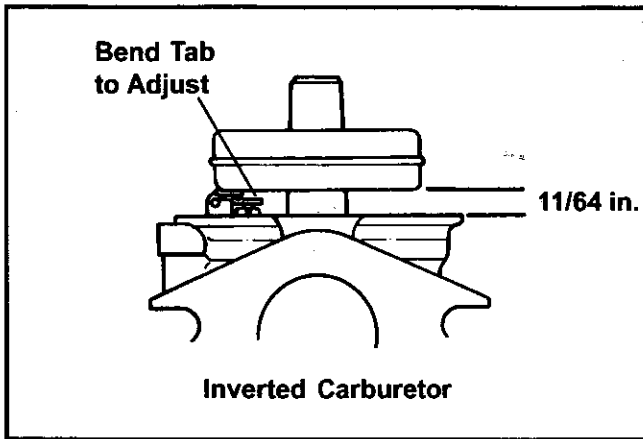

Figure 4. Setting Float Level.
2. **Set float level:** Invert carburetor so the float tab rests on the fuel inlet needle. There should be **11/64 in. ($\pm 1/32$ in.)** clearance between the machined surface of body and the free end of float. Bend the float tab with a small screwdriver to adjust. Refer to Figure 4.